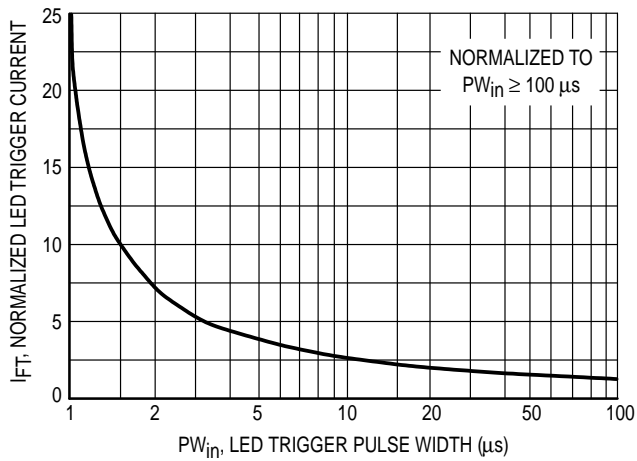

Figure 10. LED Current Required to Trigger versus LED Pulse Width
For resistive loads the triac drivers may be controlled by short pulse into the input LED. This input pulse must be synchronized with the AC line voltage zero-crossing points. LED trigger pulse currents shorter than 100 μs must have an increased amplitude as shown on Figure 10. This graph shows the dependency of the trigger current I_{FT} versus the pulse width $t(PW)$. I_{FT} in the graph, I_{FT} versus (PW), is normalized in respect to the minimum specified I_{FT} for static condition, which is specified in the device characteristic. The normalized I_{FT} has to be multiplied with the device's guaranteed static trigger current.